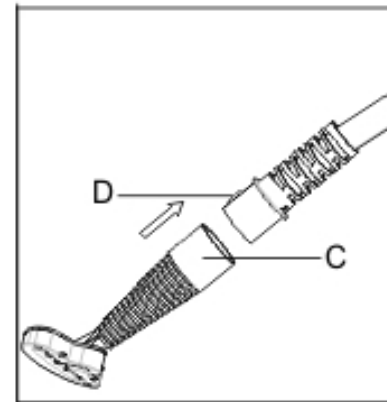

Fig. 5
2. To attach the steam diffuser, grasp steam diffuser in one hand, grasp the hose in the other. Depress the locking button on the hose end until the locking button engages the hole in the steam diffuser. A slight rotation of the steam diffuser may help engage the locking button. (See fig. 5)